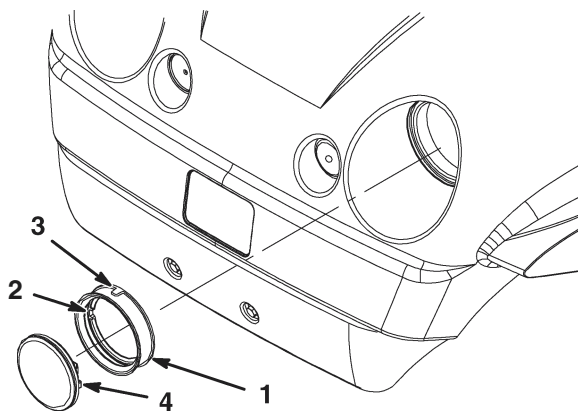

Figure 33
4. Remove the rubber seal from around the headlight (Fig. 33). Discard the headlight.
5. Align the notch on the inside of the seal with the notch on the new headlight (Fig. 33). Slide the seal onto the headlight until the seal is firmly in